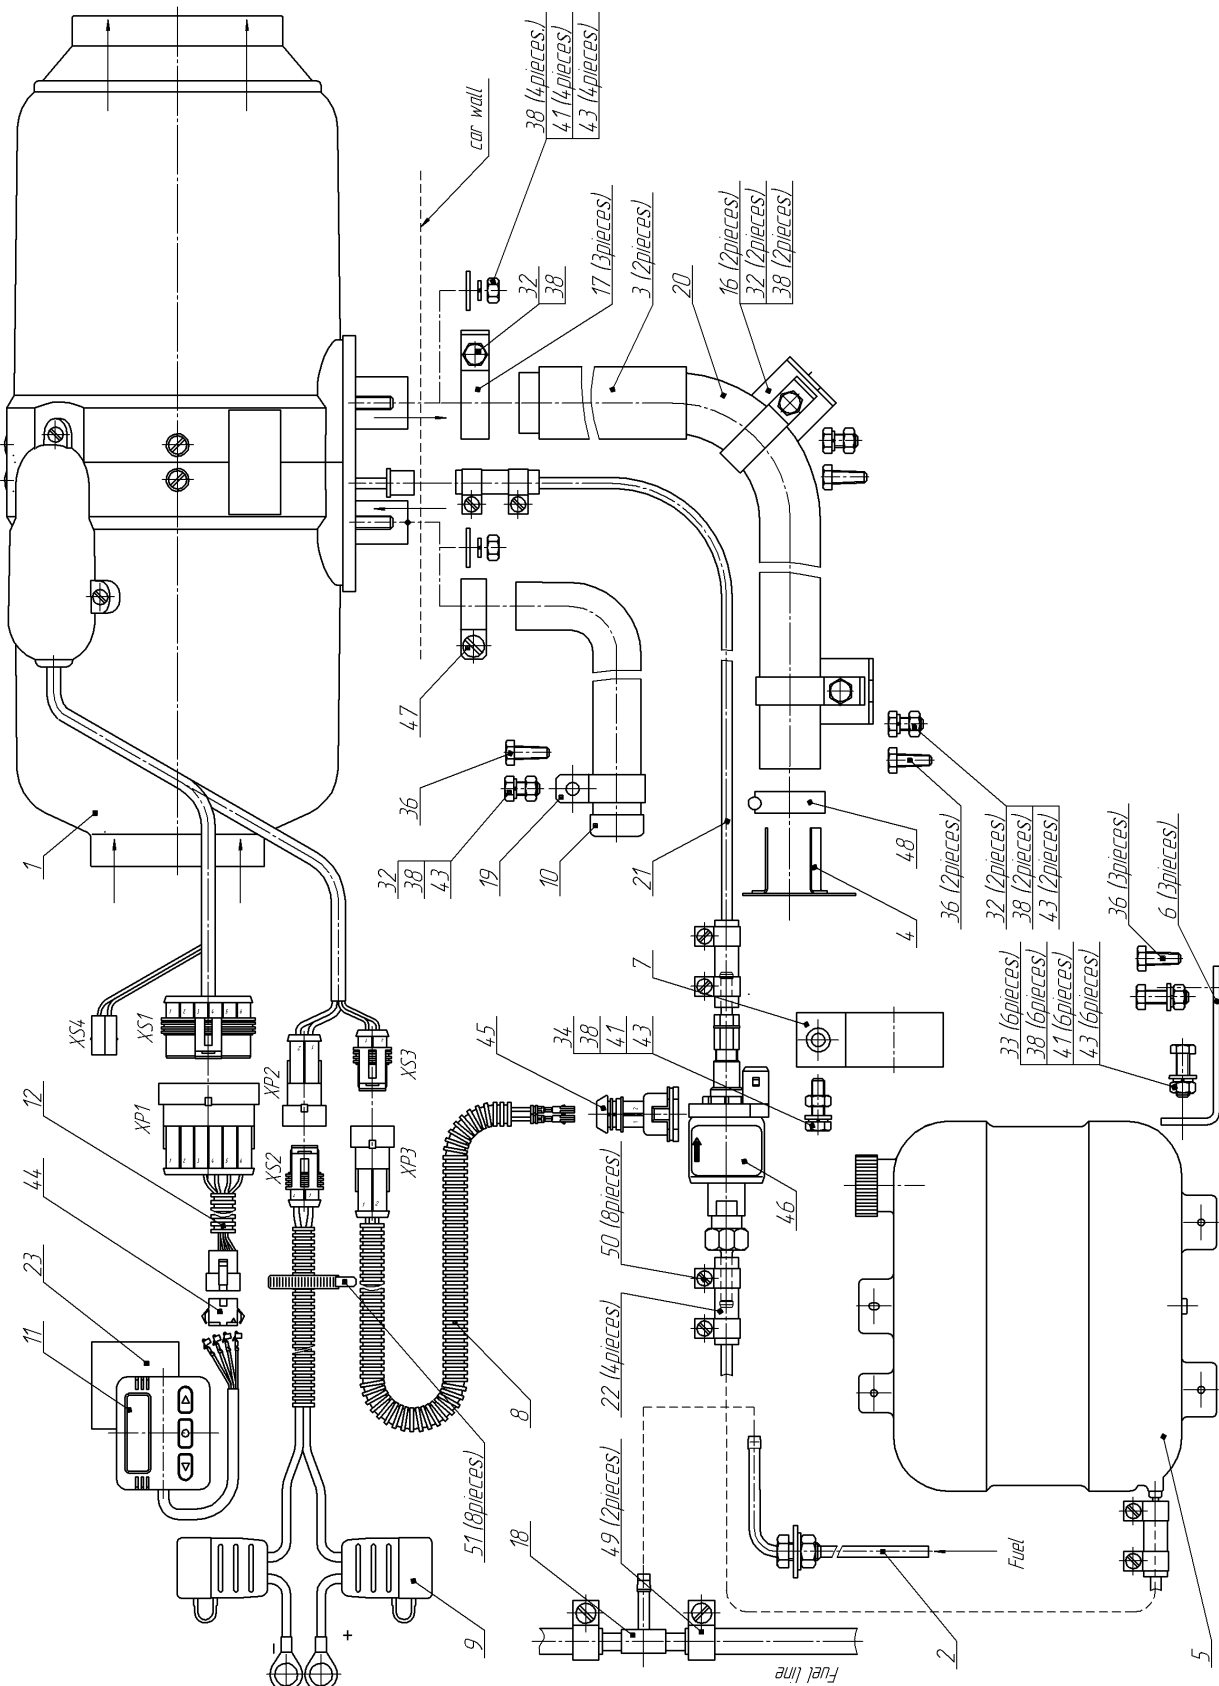

Figure 7.1 – Connection Diagram of Basic Heater Components
See Figure 7.1 for scope of supply and connection diagram of basic heater components. For list of basic heater components, see Table 7.1. The package additionally includes repair kit candles and gaskets.
Screen installation to make according to fig. 7.1.
When installing the exhaust pipe, be mindful of its high operating temperature. Cut the exhaust pipe (a flexible corrugated metal hose) to size. Fix the exhaust pipe in place using clamps and position it at a slight angle following the trajectory of gas flow. To protect some parts of the vehicle (electric wiring and other harness) from high temperatures, there must be heat insulation installed. (pos.9, fig.7.1)
Do not allow exhaust gas to affect the performance of vehicle components. Position the exhaust pipe outlet vent so as to prevent snow entering or choking the pipe and to allow incoming water to run off. At the vent of the exhaust pipe the screen is installed, this necessary for stable operation of the heater while working low idle. If this screen is not installed, install it according fig.7.1